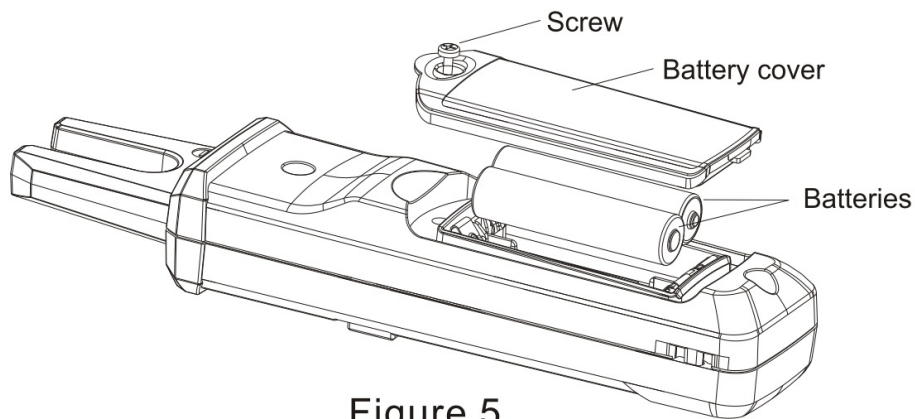

Figure 5
- 2) Loosen and remove the screw of the rear cover with a screwdriver, remove the battery cover, and take out the old batteries as figure 5.